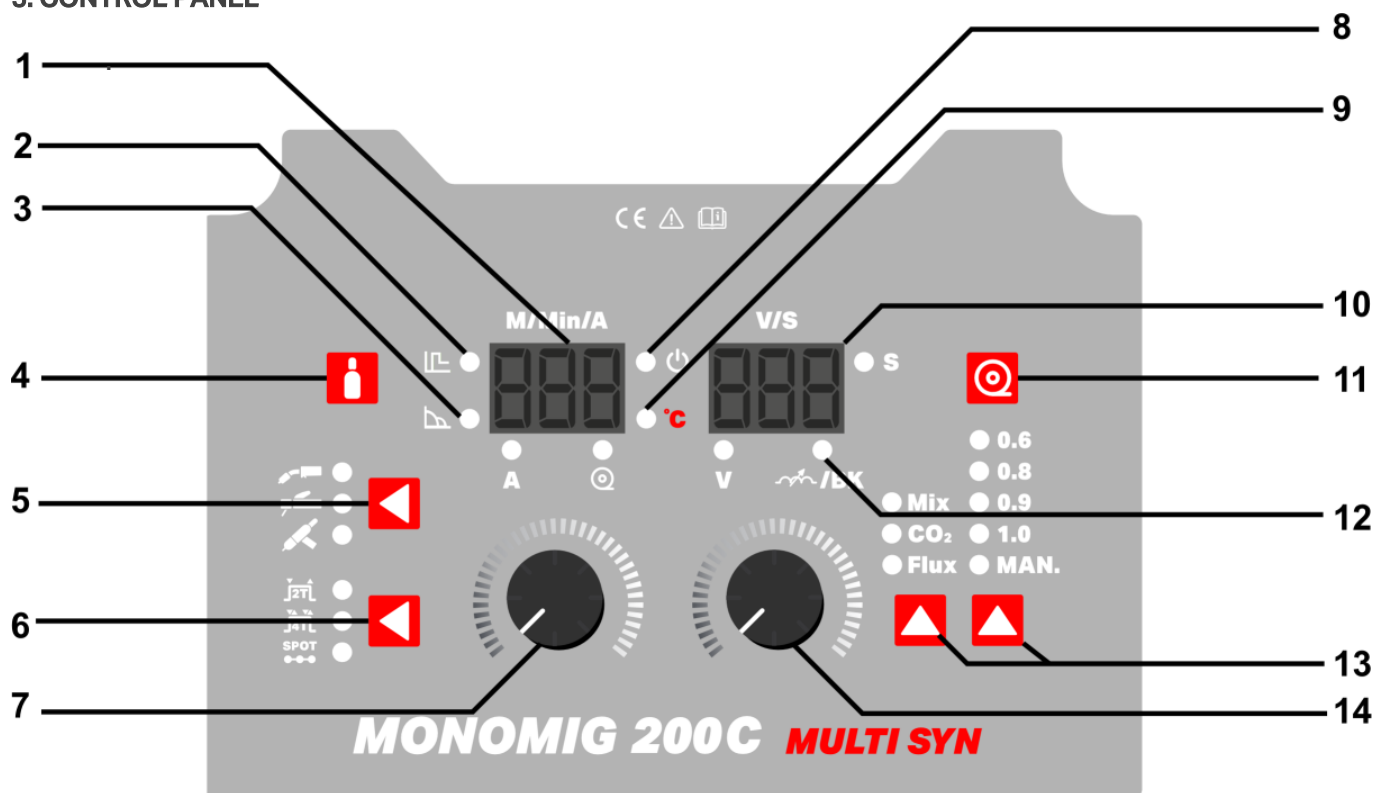
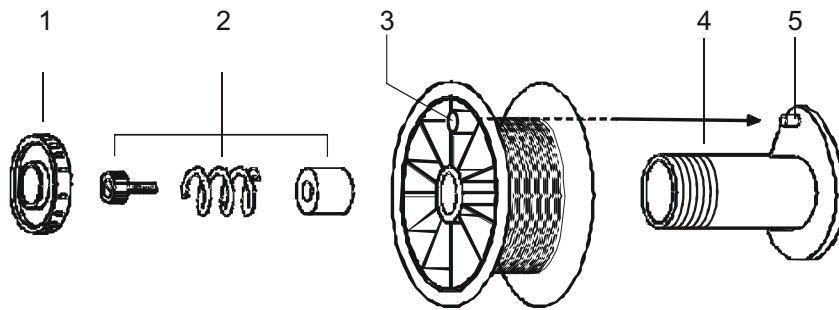

Fig. 1
Fig.2
- Unscrew the retaining nut (1 - Fig.2) to place the wire coil on the wire coil holder (4-fig.1). Confirm that the breaking system (2- Fig.2) is operative, with spindle (5- Fig.2) correctly inserted in the breaking hole (3- Fig.2). After the wire coil is installed, tighten the retaining nut.
- After this, the wire coil breakage system must be regulated, if necessary, with the retaining screw (2- fig.2). The rotation movement of the wire coil must stop at the same time as the motor.